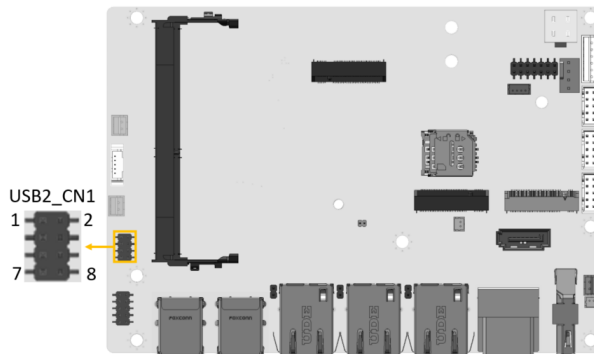

Figure 3-31: USB Connector Location
- CN Location:** See **Figure 3-31**